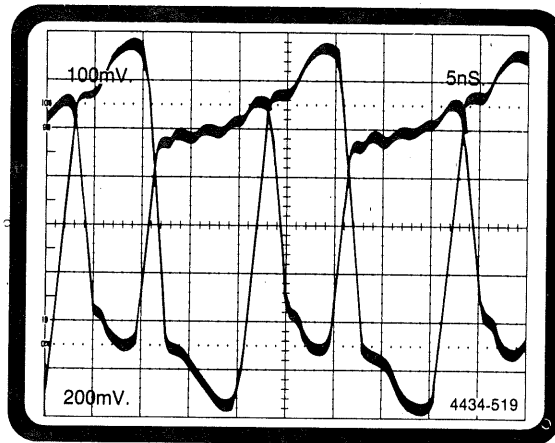

Figure 2-31. 318A Glitch data acquisition test waveform #2.
- a. Set the pulse generators as per Table 2-11 and Figure 2-31.